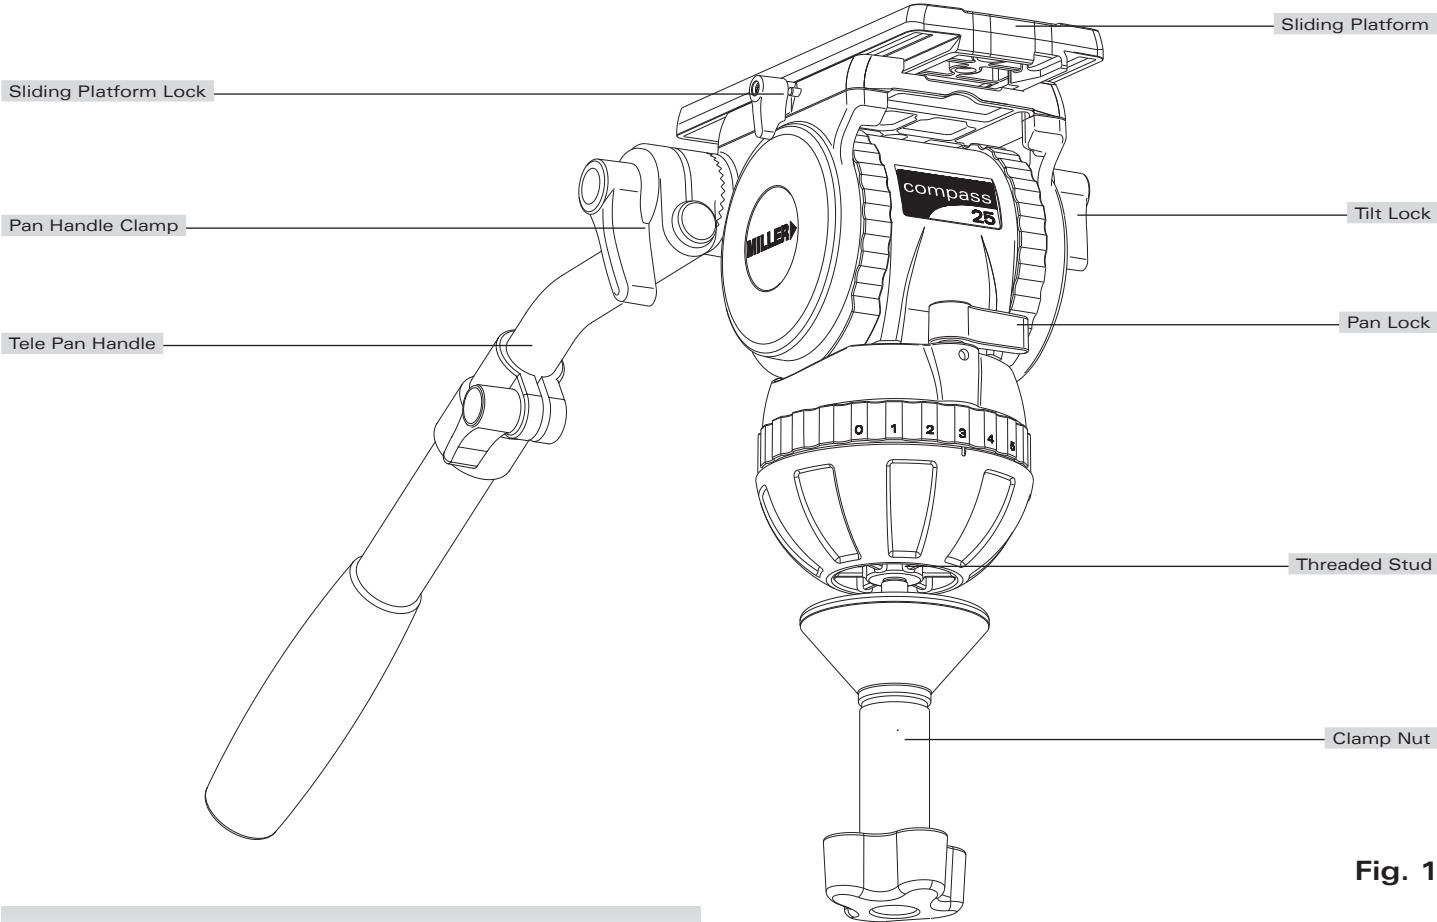

Fig. 1
- 1.3 Set the initial control settings as follows – see Figure 1 & 2:
- 2.2 Refer to the Camera's owners manual for correct method of attachment to the CAMERA PLATE. Inspect the CAMERA PLATE and remove the 1/4" and 3/8" screws or the 1/4" + PIN CARRIAGE (DVCAM mount) as required. The 1/4" and 3/8" screws can be stored underneath the SLIDING PLATFORM (fig. 1).